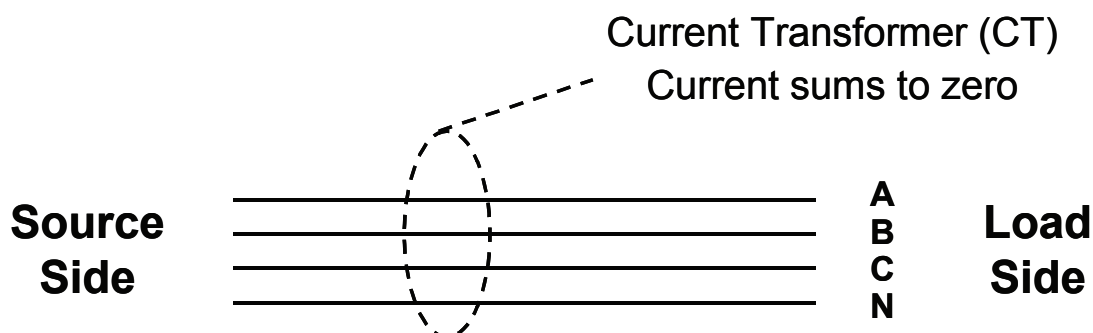
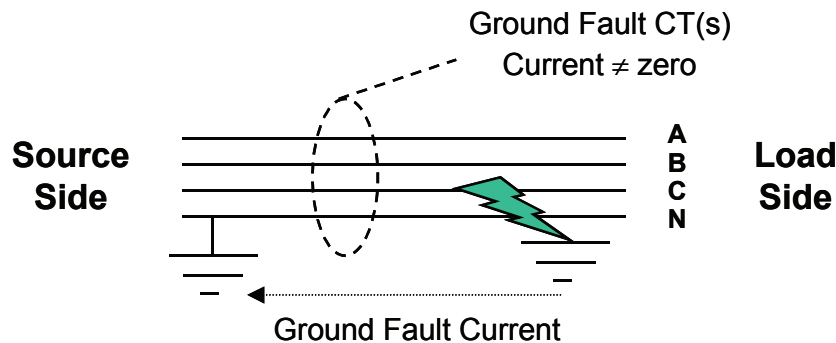

Figure 5
Figure 6
The basic concept utilized in monitoring ground fault current is that the outward current should equal the returning current. Ground fault monitoring is typically accomplished with a "summation of currents" process using one or more current transformers (CT). Under normal operation, inbound currents should be equal to all outbound currents and cancel each other when measured at the transformer(s). If current flows through the grounding conductor and/or the facility ground plane, the inbound and outbound currents no longer cancel through the ground fault current transformer(s) and a ground fault is detected. Figure 5 illustrates this configuration.
The configuration in figure 5 is called zero sequence ground fault monitoring. In this configuration, the neutral (grounded) conductor is included in the current summation. By including normal single-phase neutral currents, the ground fault monitor process can be more sensitive than methods that exclude the neutral currents. Although zero sequence monitoring offers increased sensitivity, it requires that the neutral be bonded to ground on the source side of the ground fault current transformer(s). Figure 6 shows the correct bonding for zero sequence GFP & GFI.